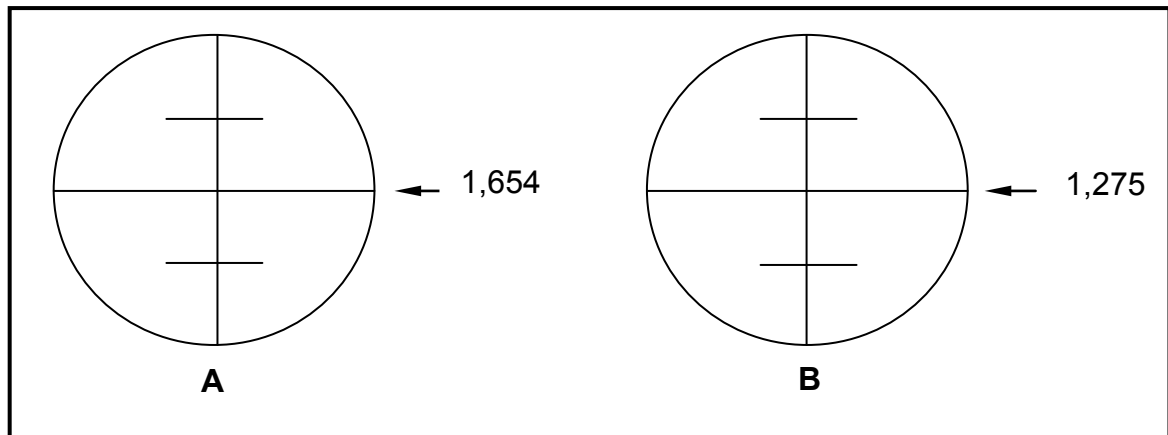

FIGURE 2.2
- 2.2 FIGURE 2.2 below shows two readings on the middle stage lines at peg **A** and peg **B** as viewed through the eye piece of a dumpy level.
- 2.2.1 Calculate the difference in height between peg **A** and peg **B** as indicated in FIGURE 2.2. Show ALL the calculations in your ANSWER BOOK. (3)